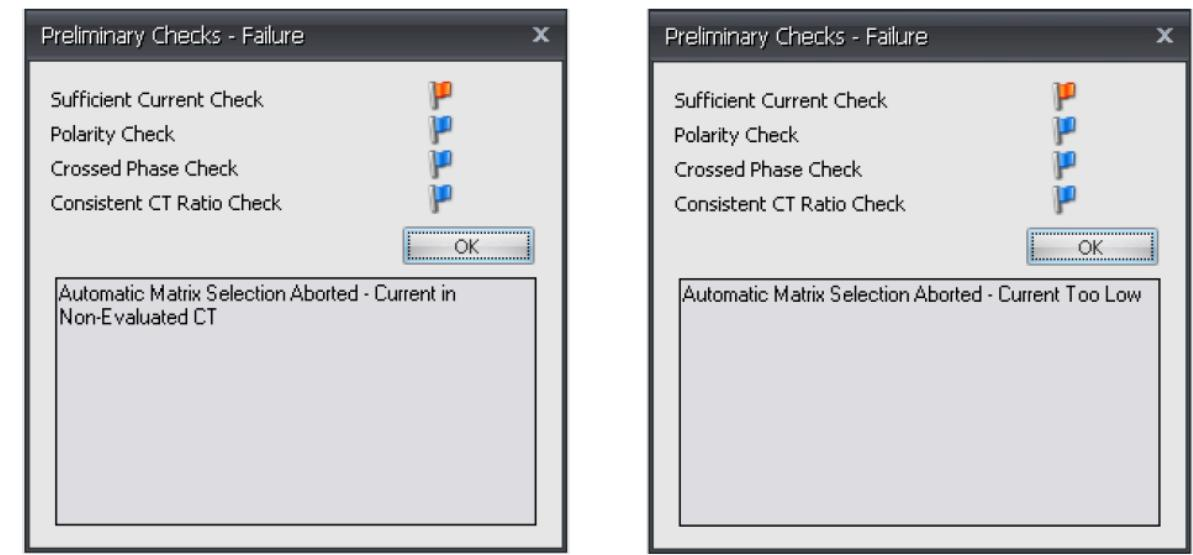

Figure 7.39 Current in Non-Evaluated CT and Current Too Low Error
Step 14. Click **Run Test** to start the matrix calculation process. Commissioning Assistant now uses ASCII **MET** commands to read selected information from the relay. Commissioning Assistant first performs two current checks: Check 1 ensures that more than five percent of the full load current flows in both Terminal S and Terminal U; Check 2 ensures that no current flows in Terminal T. If either check fails, the relay reports the error and aborts the test, as shown in *Figure 7.39*.